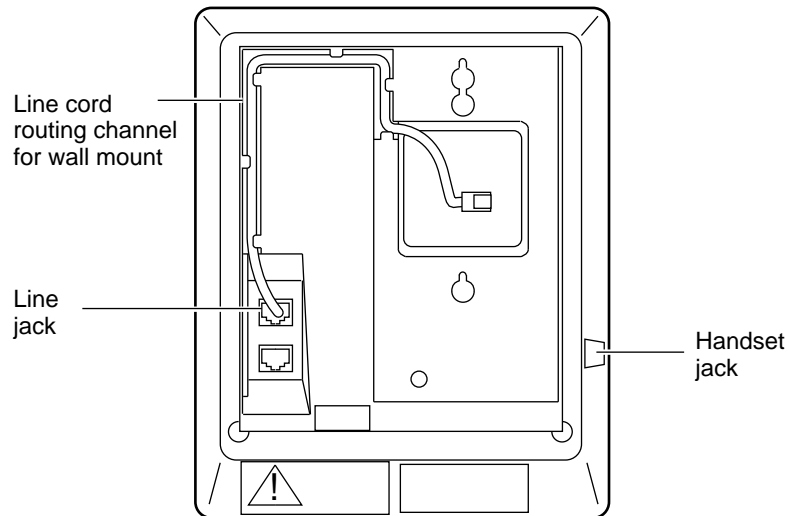

FIGURE 7-19. Line Cord Routing for Wall Mount
2. Pass the 1-foot line cord through the channel, as shown in Figure 7-19.